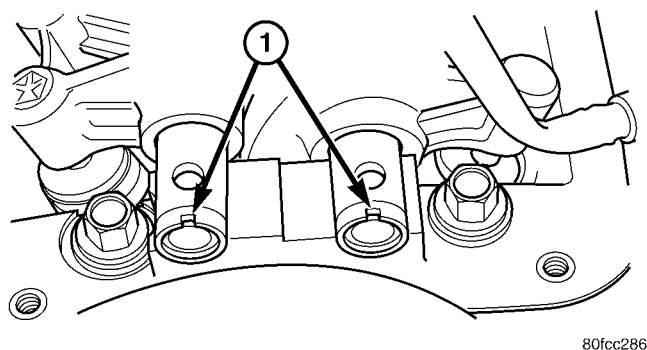

Fig. 27 Rocker Arm Shaft Notches
(3) Install rocker arm and shaft assemblies with NOTCH in the rocker arm shafts pointing up and toward the timing belt side of the engine (Fig. 27). Install the retainers in their original positions on the exhaust and intake shafts (Fig. 25).